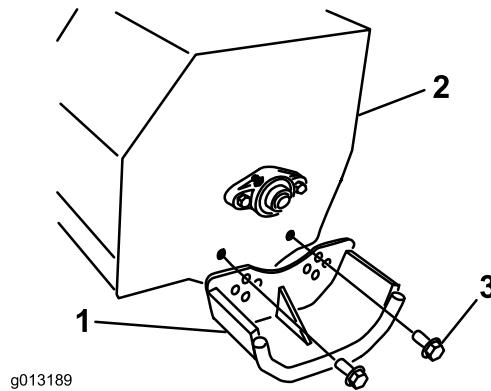

Figure 6
2. Remove the bolts that secure the skids to the housing (Figure 6).
3. Position the skids equally on both sides and secure them with the bolts (Figure 6).